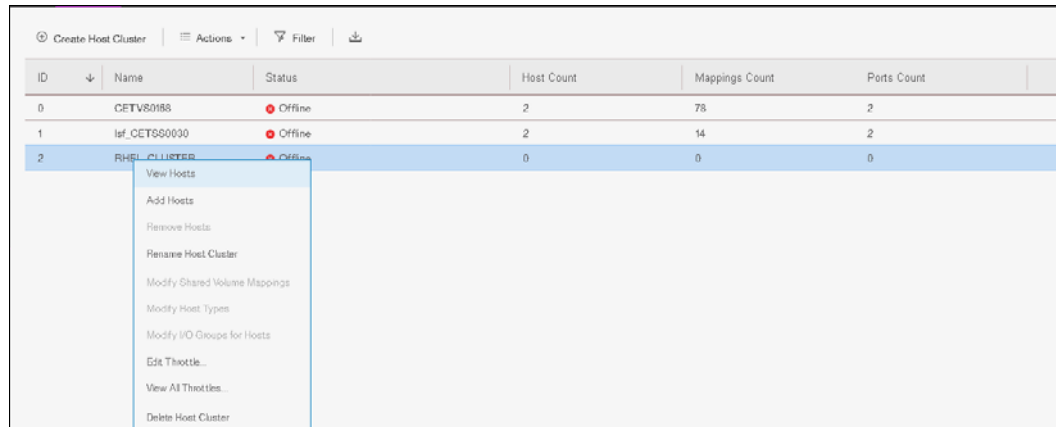

Figure 5-78 Selecting the Host Cluster
1. From the **Host Clusters** pane, right click on the desired host cluster to which you wish to add members as shown in Figure 5-78.